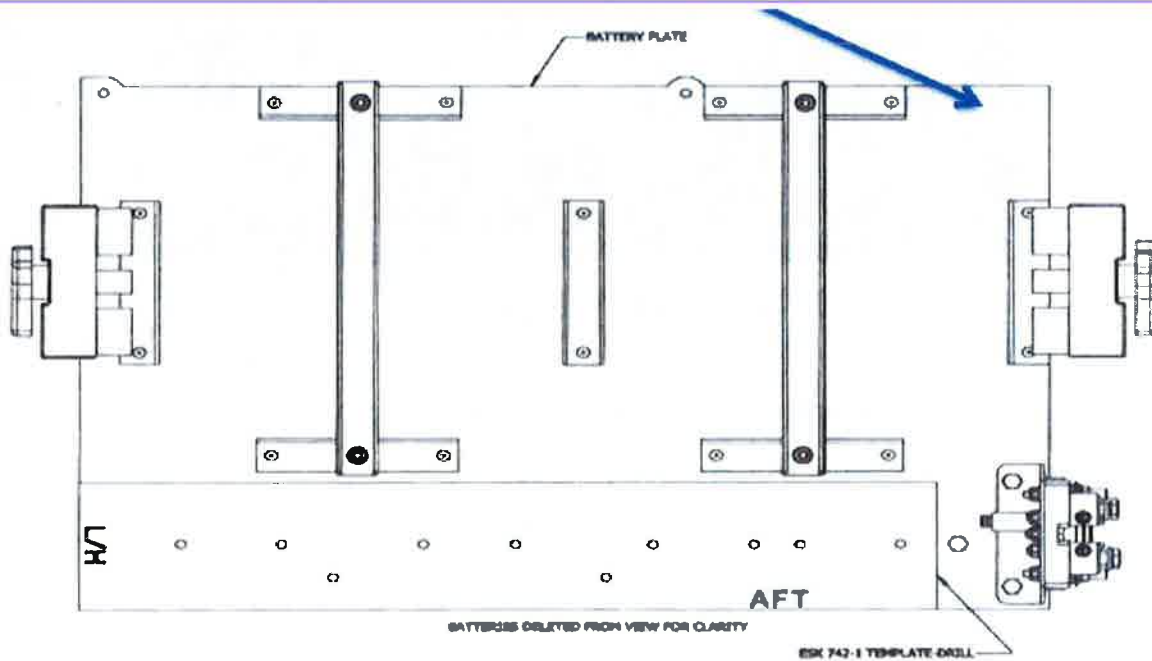

Figure 43-11
- o. Locate the ESK 742-1 Drill Template and drill 10 (.25 Dia) holes in the Battery Plate. See Figure 43-11 for how to locate the drill template on the Battery Plate. Use an engraving to engrave "MODIFIED BY CK-AG-43 REV-IR" into the battery plate. Locate Here: